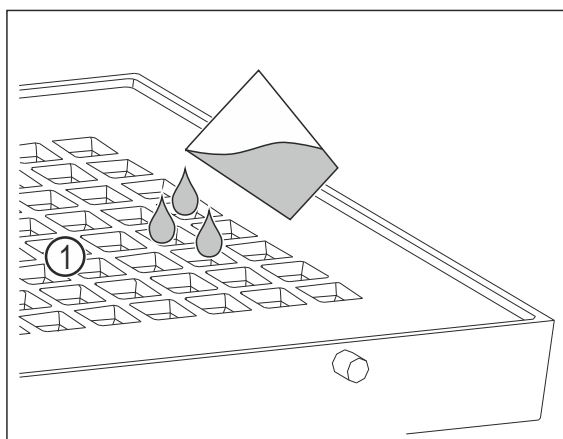

Fig. 109
► Fill with a maximum of 400 ml of water through the holes Fig. 109 (1) in the cover.